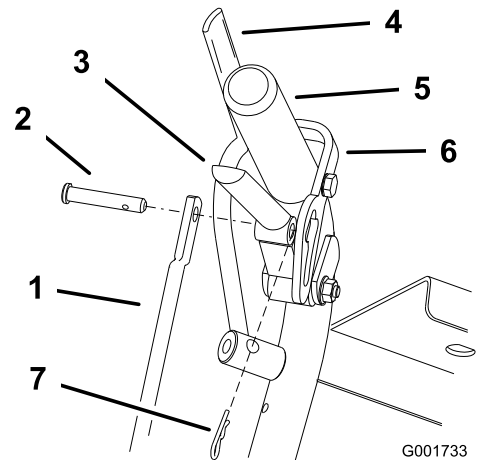

Figure 37
1. Adjust the rod length by releasing the drive lever and removing the hairpin cotter pin and clevis pin. Rotate the rod in the rod fitting (Figure 37).
4. Place the clevis pin into the drive lever (Figure 37).
6. Install the hairpin cotter pin between the drive levers and the neutral locks and into the clevis pins (Figure 37).